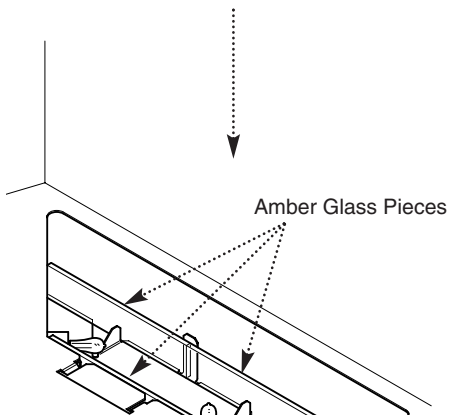

Fig. 11
3. Carefully remove the three amber glass pieces and clean (Fig. 11).